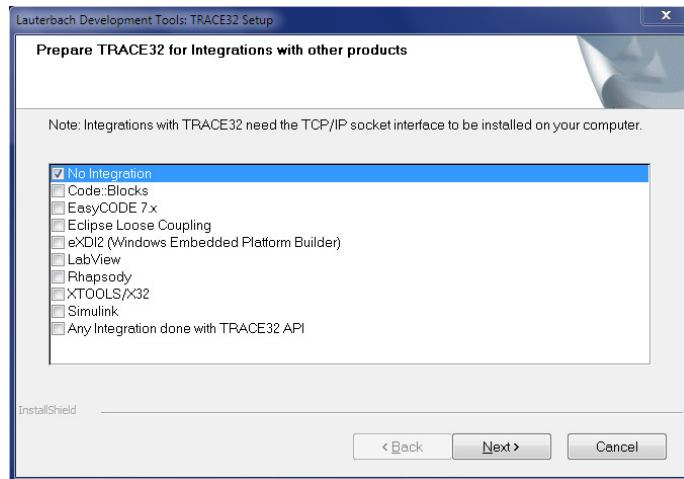

Figure 5.34: Prepare TRACE32 for Integration... page
15. On the **Prepare TRACE32 for Integration with other products** page, select **No Integration** (see Figure 5.34 on this page).